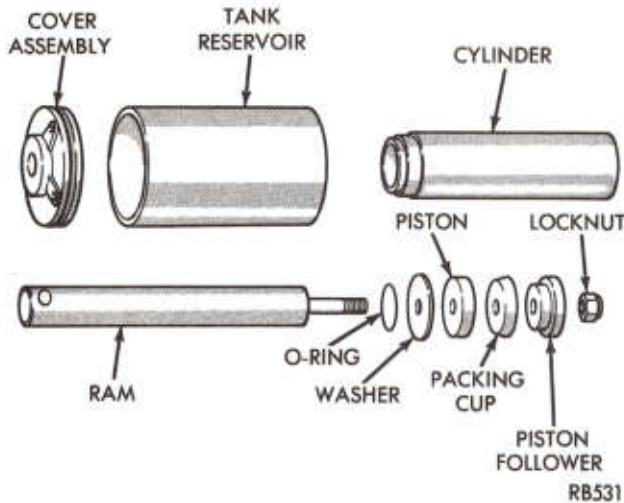

Fig. 9—Lift Cylinder Components
- (4) Inspect casting for damage or cracks and seal for cuts (Fig. 9).
- (5) Remove ram and piston. Check nylon sleeve, piston, and piston follower for excessive wear.
- (6) Inspect cylinder for pitting and scoring in bore.
- (7) Inspect ram for nicks, scratches, rust, and corrosion.
- (8) Inspect piston packing cup for wear or cut sealing lip.
- (9) Clean and inspect base strainer.
- (10) Replace all O-rings at assembly.
- (11) Loosen motor attaching bolts. Do not remove bolts from motor. **Hold or secure motor endplate in place during removal, then, temporarily install two 1/4-20 nuts on motor attaching bolts to keep motor intact.**